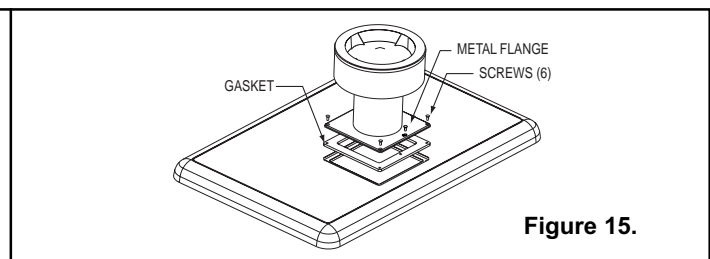

Figure 15.
2. Install the Outdoor Vent Kit, (P/N 460424), as shown in Figure 15. Make sure the holes in the gasket, metal flange of the main vent assembly, and heater cover are aligned before securing into place using the six (6) screws provided in the Outdoor Vent Kit.